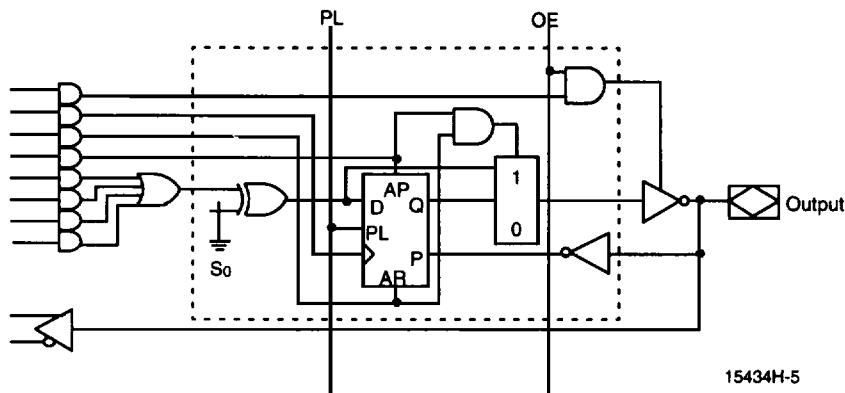

Figure 1. PALCE20RA10 Macrocell
The PALCE20RA10 has ten dedicated input lines and ten programmable I/O macrocells. The Registered Asynchronous (RA) macrocell is shown in Figure 1. PL serves as global register preload and $\overline{OE}$ serves as global output enable. Programmable output polarity is available to provide user-programmable output polarity for each individual macrocell.